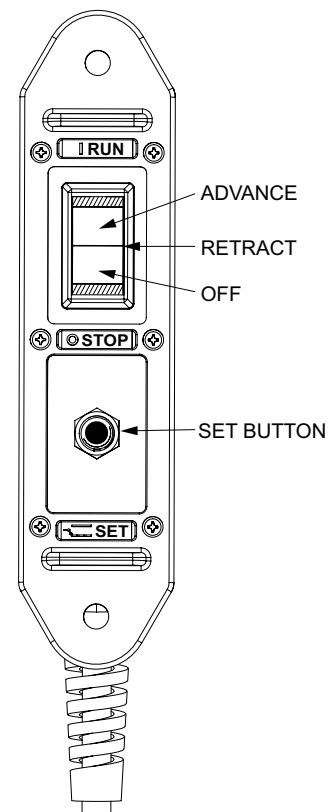

Fig. 4. Hand Pendant Controller
See Figure 4. Hand Pendant Controller (ADVANCE, RETRACT, OFF and SET)
- C. Refer to figure 4. Press rocker switch so it is in the OFF position.